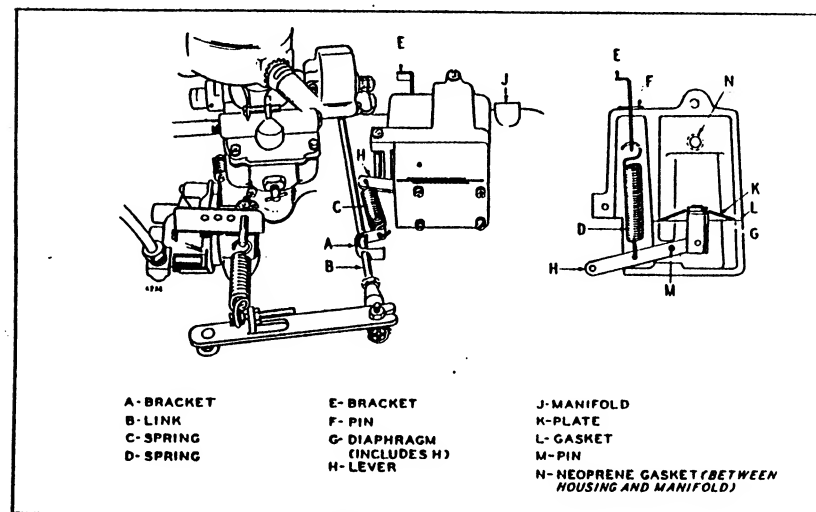

FIG. 29 - VACUUM SPEED BOOSTER
**SPEED BOOSTER.** - The vacuum speed booster is a device used on certain ac plants of the CK series to maintain or increase the engine speed by opening the throttle when engine vacuum is decreased. The effect is maintained or increased speed at higher loads (3KW to 3.5KW) and the result is near constant output voltage. Refer to Figure 29.